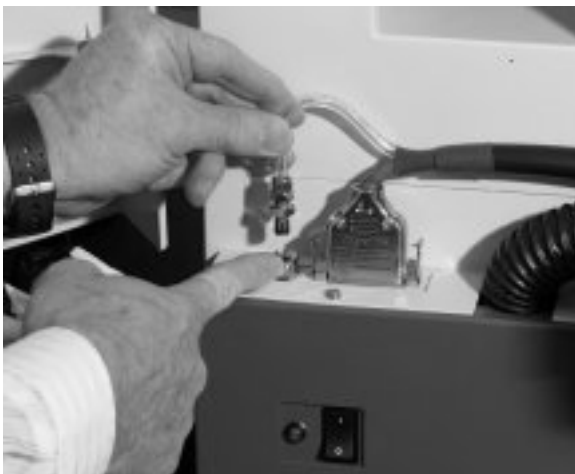

Figure 20 Removing the plunger of the syringe
- 1 Unplug the PSD gas connection plug, as shown in Figure 20. This will allow the pressure in the bottle to return to atmospheric pressure.